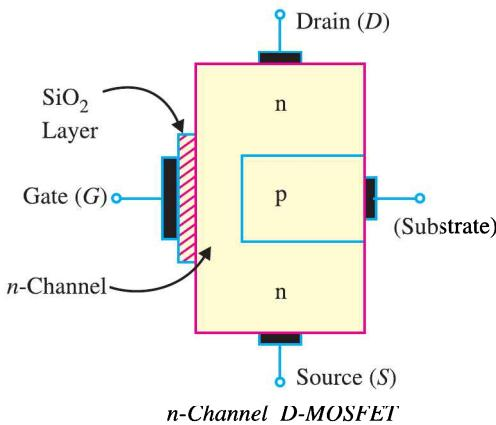

Fig. 19.43
**1. D-MOSFET.** Fig. 19.43 shows the constructional details of *n*-channel *D-MOSFET*. It is similar to *n*-channel *JFET* except with the following modifications/remarks :
(i) The *n*-channel *D-MOSFET* is a piece of *n*-type material with a *p*-type region (called *substrate*) on the right and an *insulated gate* on the left as shown in Fig. 19.43. The free electrons (*i.e.* it is *n*-channel) flowing from source to drain must pass through the narrow channel between the gate and the *p*-type region (*i.e.* substrate).